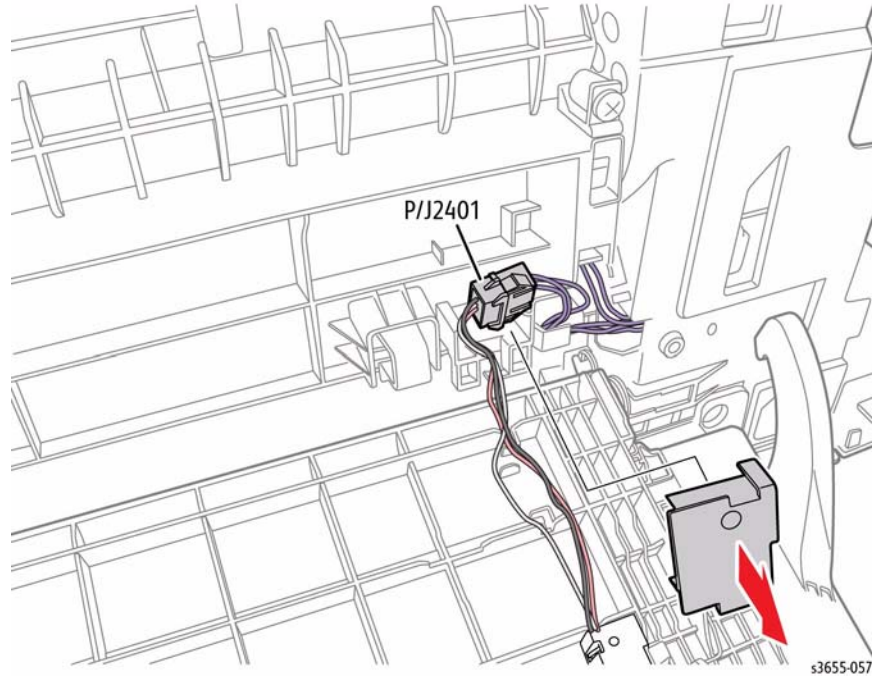

Figure 2 Rear Fan Connection
3. Refer to Figure 2 to locate and release the hook that secures the connector cover, then disconnect the Rear Fan. Release the boss on the left side to remove the cover. The ground spring should release from the chassis hook as you remove the cover.